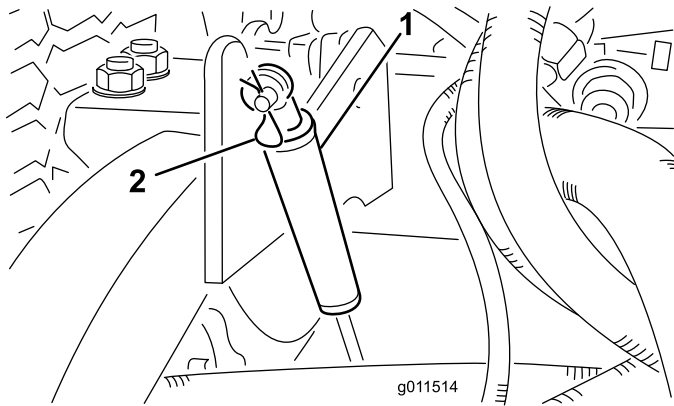

Figure 76
2. Remove the hairpin cotter securing dampers to lift arms (Figure 76). Pivot damper toward deck housing.